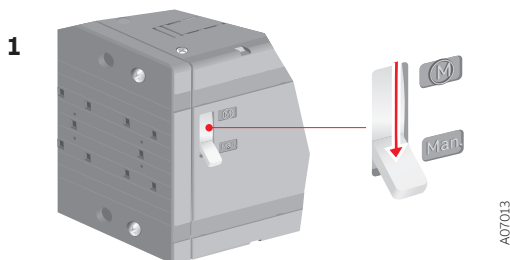

Figure 5.5 Motor/Manual selection in the Man. position
1. Turn the Motor/Manual selector to the Manual (Man.) position, see Figure 5.5. The motor operator is switched off and electrical operation is prevented.